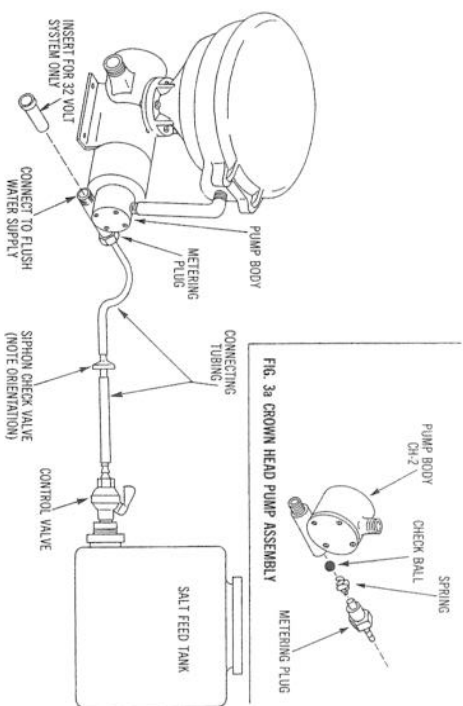

FIG. 3 CROWN HEAD—SALT FEED SYSTEM INSTALLATION
The salt feed tank is equipped with a control valve. Attach the check valve and tubing as shown in Figures 3 or 4. Lead the free end of the tubing to the flush water intake fitting on the marine toilet. Cut off any excess tubing. Instructions for connecting the tubing to the toilet are given below.
*Raritan Crown Head*—Figure 3 illustrates the installation